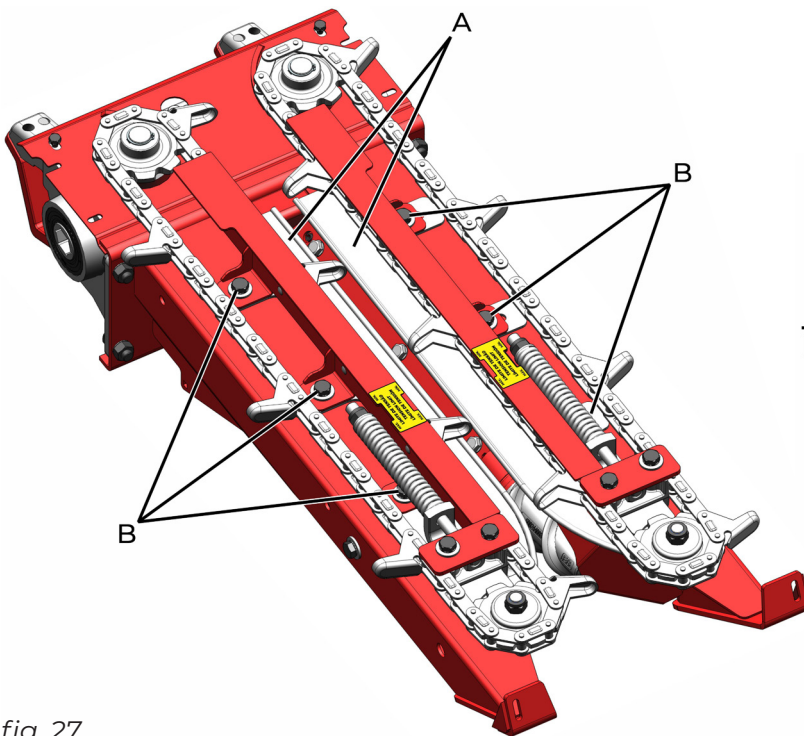

fig. 27
The threshing plates (A) (*fig. 27*) are factory-mounted spaced 28 mm at the initial end and 34 mm at the final end, as shown in *figure 28*. Such spacing is suitable for most field conditions. However, if adjusting the threshing plates (A) is needed, this system allows for it. It is done manually and individually using the screws (B) (*fig. 27*), which must be loosened to adjust the desired measurement, after which they must be retightened. It is noteworthy that the measurement at the initial end is always less than at the final end, this variation should be approximately 6 mm.